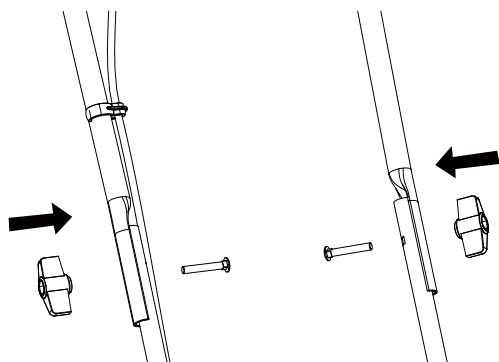

Fig. 1b
2. Slide the cable tidy around the upper handle assembly. Attach the upper handle to the two lower handles, using the handle fixing knobs, bolts. Ensure they are secured (Fig. 1b).